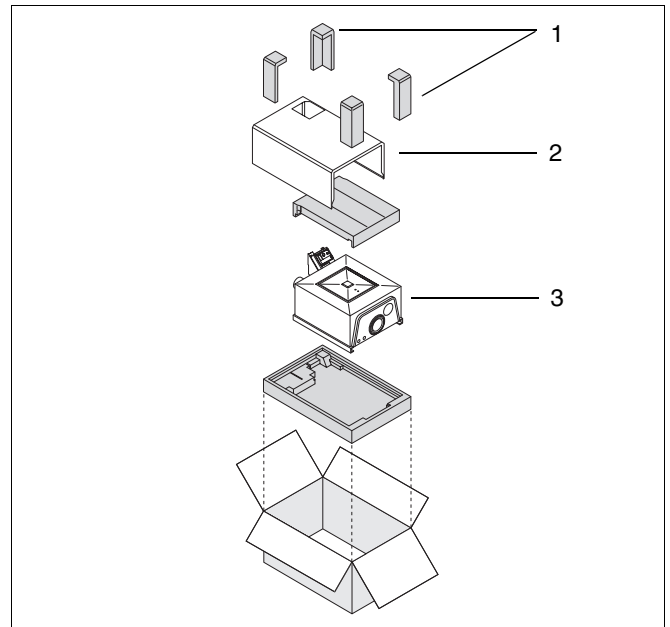
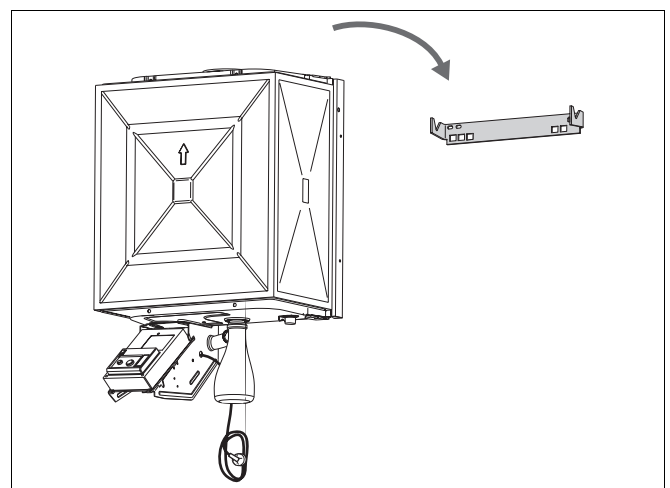

Fig. 5 Unpacking the box
Fig. 6 Installation
- Open the box and remove the four foam supports (fig. 5, item 1). The casing is not attached to the boiler.
- Take out the casing (fig. 5, item 2) and put aside during installation.
- Take out the condensing gas boiler (fig. 5, item 3) and hang onto the wall bracket (fig. 6).